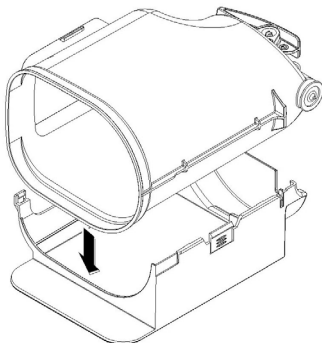

figure 15
- 1 Place the right-hand part of the recover on a surface. Place the container inside it . (see figure 15)